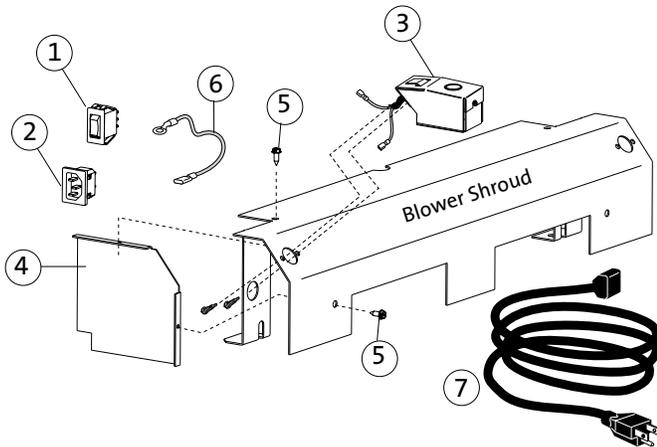

Figure 13. Blower hardware contents and orientation.
The blower is fully assembled, except for the wire harness connections which depend on what side you wish the power cord to be routed. The power receptacle, control switch, and snapstat assembly must all be installed on the same side. See fig. 13 for part orientation.
x 1/2" sheet metal screws. The clearance hole in the shroud leg is for screwdriver access. See fig. 13.
8. Attach the Air Deflector: Using the two remaining #8 sheet metal screws, attach the Air Deflector to the Blower Shroud on the same side as the snapstat is installed. See fig. 13, parts 4 and 5.